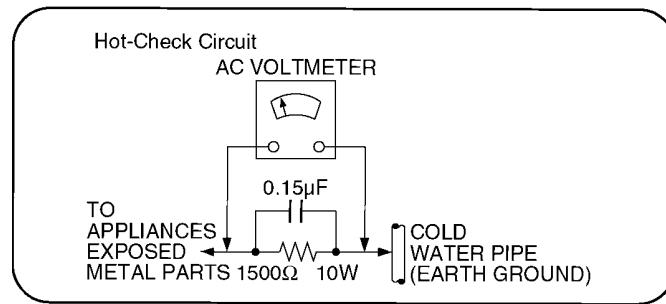

Figure 1
1.1.2. Leakage Current Hot Check (See Figure 1.)
2. Connect a $1.5k\Omega$, 10 watts resistor, in parallel with a $0.15\mu F$ capacitor, between each exposed metallic part on the set and a good earth ground such as a water pipe, as shown in Figure 1.